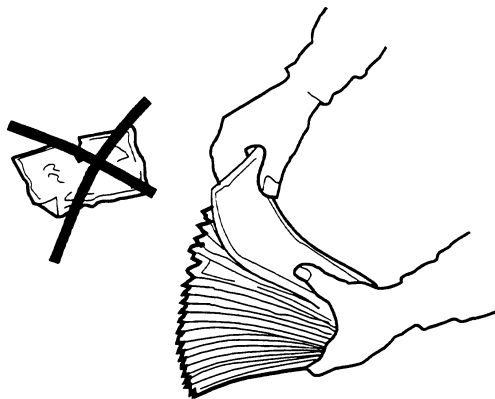

Figure 4-2. Removing Torn/Worn Notes.
3. To remove the selected Note Cassette, grasp the cassette handle with one hand while holding the mechanism in place with the other hand (See Figure 4-2). Pull the cassette out slightly. Place one hand underneath to support the cassette as you slide it completely out of the unit.